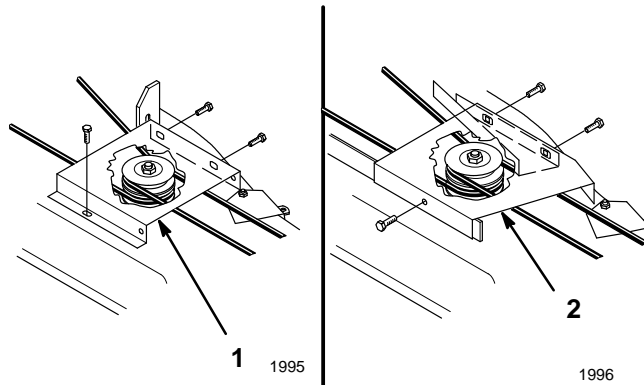

Figure 33
1. Remove the mower belt cover from the right side pulley (Fig. 33). Save mounting hardware.